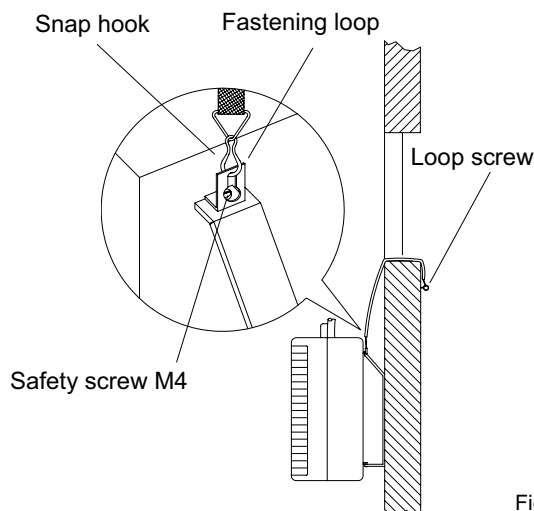

Fig. 10
3. Hang the other end of the strap into the loop screws attached to the wall or parapet (Fig. 10).